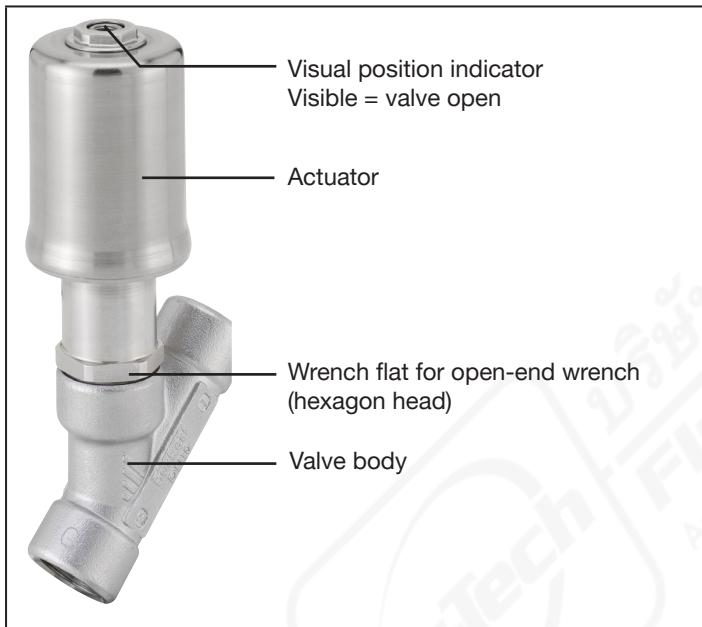

Figure 5: Disassemble actuator
- Remove the actuator from the valve body in the open valve position using a open-end wrench (see "Figure 5").